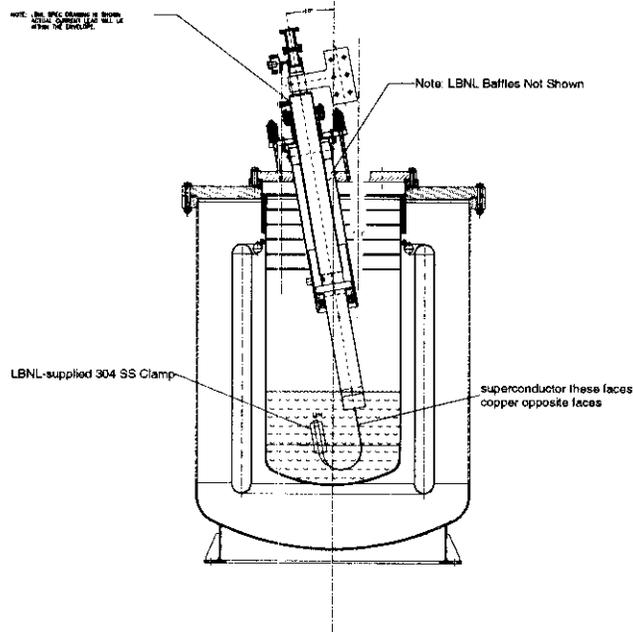
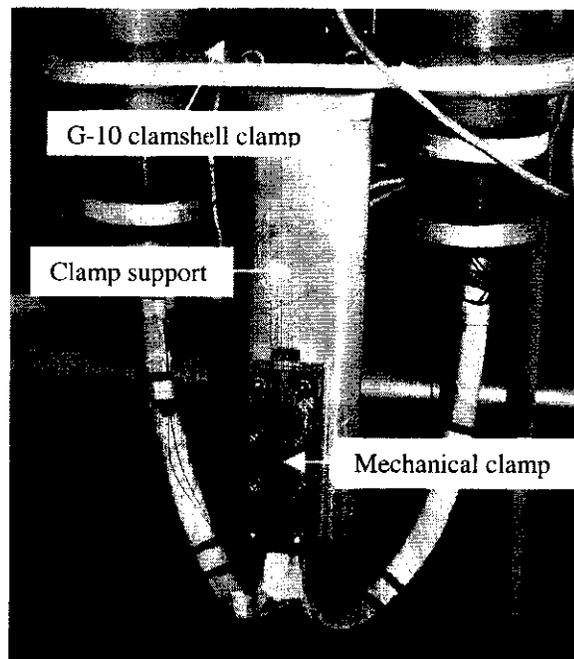

Figure 4.3a Side View of Lead in Cryostat with the LTS cables connected.
Figure 4.3b Electrical integration of the LTS sections.
- 4.3** Make connection to LTS pigtailed. The joint is a mechanical connection with a stainless steel clamp (supplied by LBNL) and indium foil between the cables to ensure good electrical contact. Figure 4.3a shows a rendition of the installed power leads. Figure 4.3b shows the G-10 clamshell clamp, the clamp support, and the mechanical clamp.